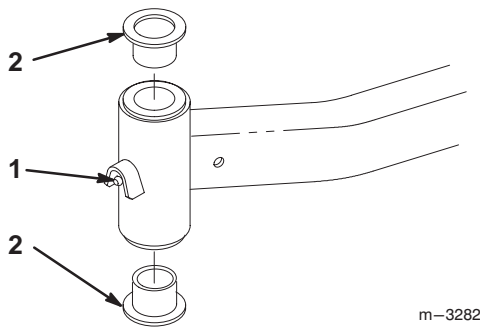

Figure 40
4. Insert a pin punch into the mounting tube and carefully drive out the bushings (Fig. 40). Clean the inside of the mounting tube.
5. Grease the inside and outside of the new bushings. Use a hammer and flat plate to carefully drive the bushings into the mounting tube (Fig. 40).
8. Grease the fitting on the carrier frame mounting tube using No. 2 general purpose lithium base or molybdenum base grease (Fig. 40).